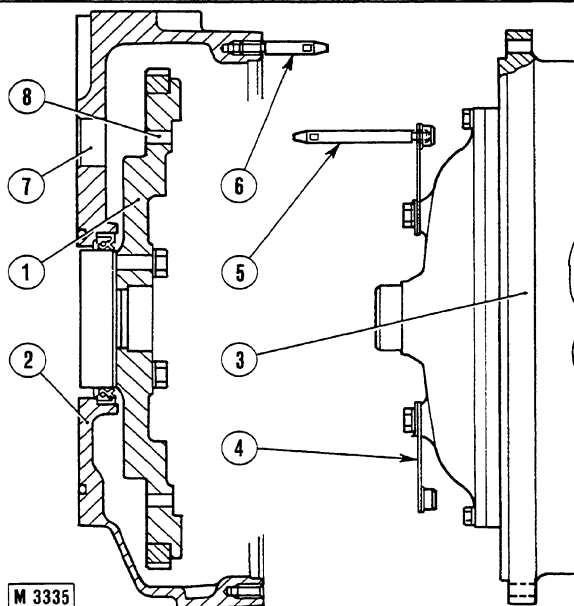

Fig. 3-4 - Transmission connection to engine.
- Install two pilot pins 75297152 (6, fig. 3-4) in two top flywheel housing holes.
- Turn flywheel until one of holes (8) is aligned with hole (7) on housing.
- Install pilot pin (5, fig. 3-4) 75297151 on flexible coupling (4) and turn coupling to align pin (5) with holes (8 and 7).
- Connect transmission housing (3) to flywheel housing (2), install capscrews and tighten to specified torque. Remove pins (6) and replace with capscrews.
- Remove pin (5) through front aperture on flywheel housing and replace with a capscrew and washer, hand tightening only.
- Turn flywheel and hand tighten the remaining screws retaining coupling (4) to flywheel. When all screws are in position torque to 1.9 to 2 daN.m (14 to 15 lb ft).